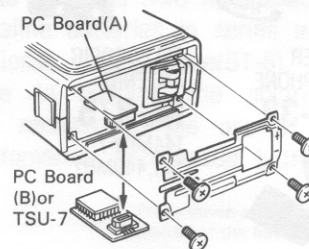

Fig 1.
3. Remove the Battery Pack and remove the four philips head screws from the terminal plate of the transceiver. (Fig.1)
6. Lift up PC board A , and disconnect PC board B from it. (Fig.1)